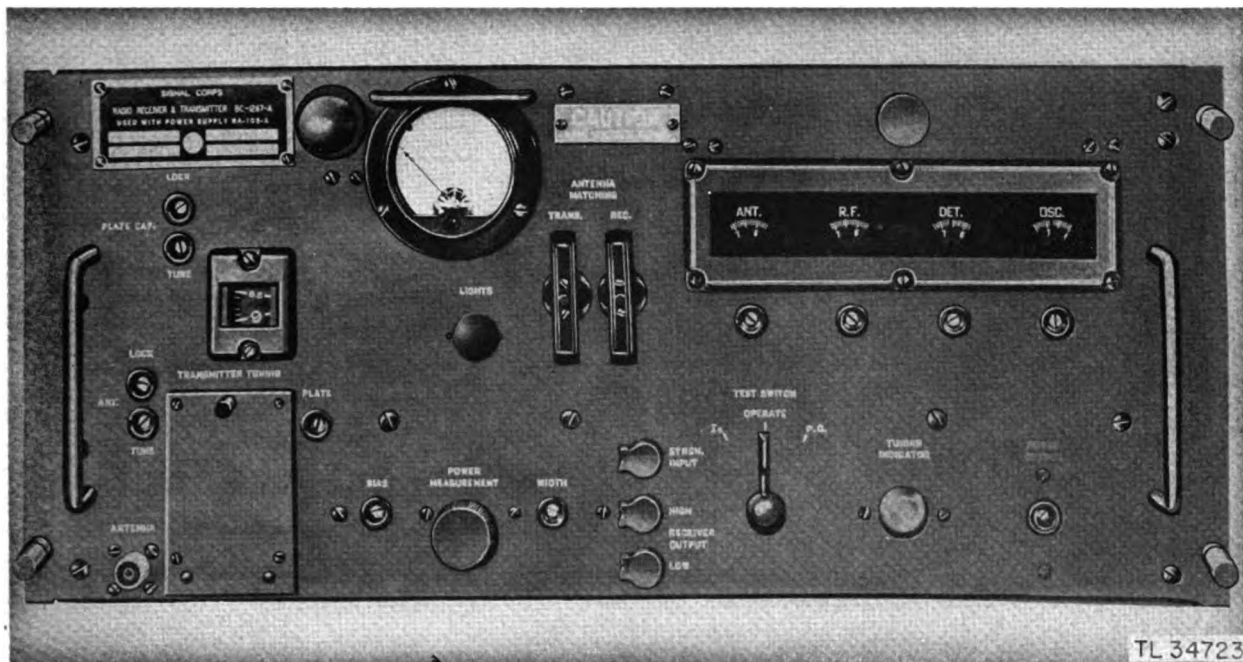

Figure 12. Radio Receiver and Transmitter BC-1267-A, front panel.
(4) To turn high voltage ON or OFF.
(5) To reset the overload relay.
e. The controls in the transmitter used with the RC-148-C are illustrated in figure 12. The receiver and antenna matching section controls are also on the same panel. The controls for the transmitter include PLATE CAP TUNE, ANT. TUNE, TRANSMITTER TUNING PLATE (transmitter tuning), BIAS, POWER MEASUREMENT, WIDTH, LIGHTS (dial light control), a d-c milli-ampere meter, TEST SWITCH OPERATE, SYNCH INPUT, and POWER OUTPUT. The antenna tuning control (ANT), the plate capacity control (PLATE CAP) have a locking device (LOCK) which must be released by turning it counterclockwise with a screw driver located above the receiver dials. This screw driver, which has a knurled knob handle, can be removed by unscrewing.
d. The controls in the receiver used with the RC-148-C are illustrated in figure 12. They are located on the same panel as the transmitter controls. There are four tuning controls labelled ANT., R. F., DET., OSC. which are adjusted by means of the small screw driver located just above these dials. There is also an associated tuning eye indicator as well as a high and low RECEIVER OUTPUT jack used to check db gain of the receiver.